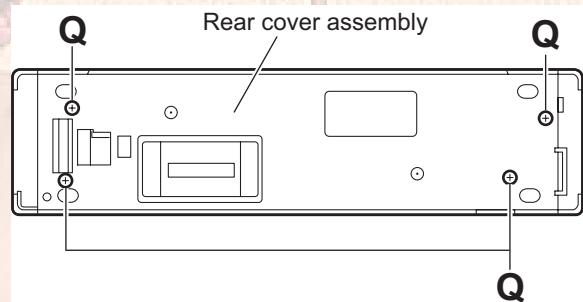

Fig.15
(See Figs.15 to 17)
(1) From the rear side of the front panel assembly, remove the four screws **Q** attaching the rear cover assembly to the front panel assembly. (See Fig.15)